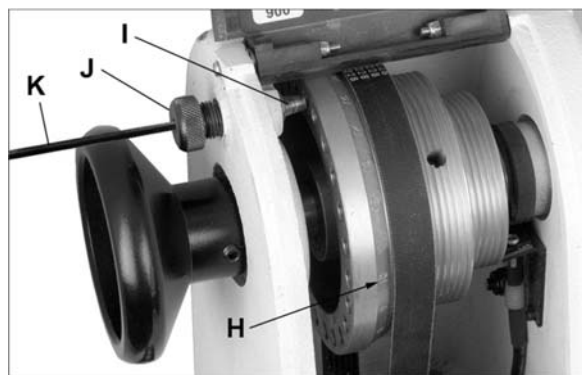

Figure 15
Referring to Figure 15:
Your lathe provides 24 indexing positions. These are identified by inscribed numbers on the spindle pulley (H, Figure 15)
1. Rotate spindle until index pin (I) aligns with desired hole.
2. Push index pin into hole and rotate knurled head (J) to engage threads and secure in position.
4. Rotate knurled head counterclockwise until pin releases. Move pulley to next desired hole, and repeat. NOTE: A 3mm hex key (K, Figure 15) can be inserted and turned in the hole of the knurled head, to help tighten or loosen the index pin.